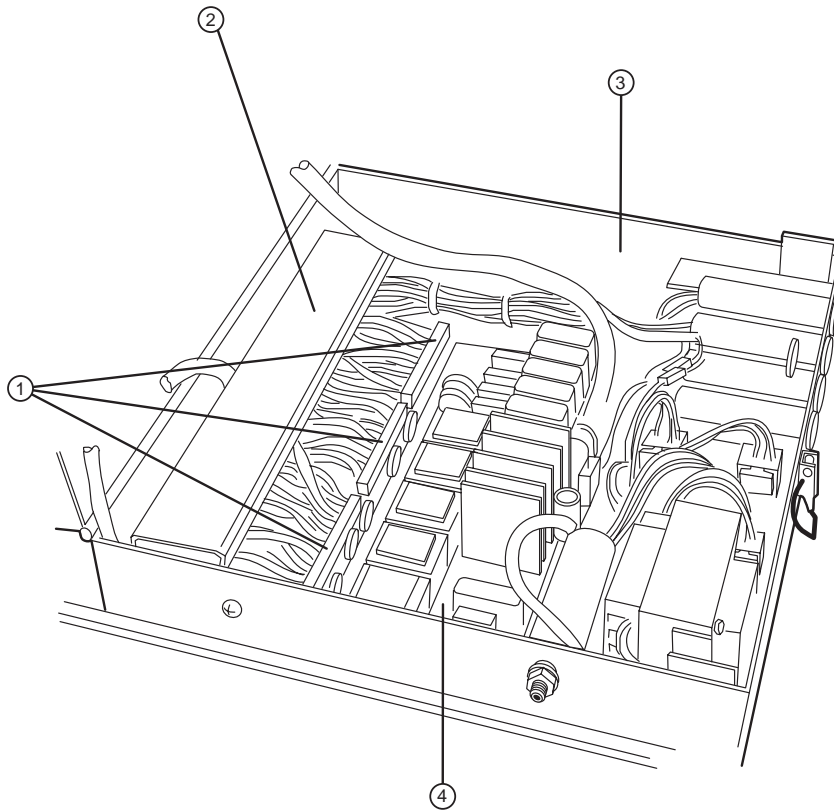

Figure 3-9 Electronics box with power board.
2. Remove the plastic cover plate. Refer to Figure 3-9.